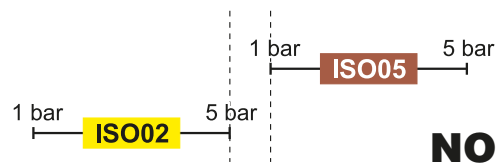

Fig. 106
• **NON compatible nozzles:** the rate at 1 bar of the ISO05 nozzle is HIGHER than the rate at 5 bars of the ISO02 nozzle (Fig. 106).